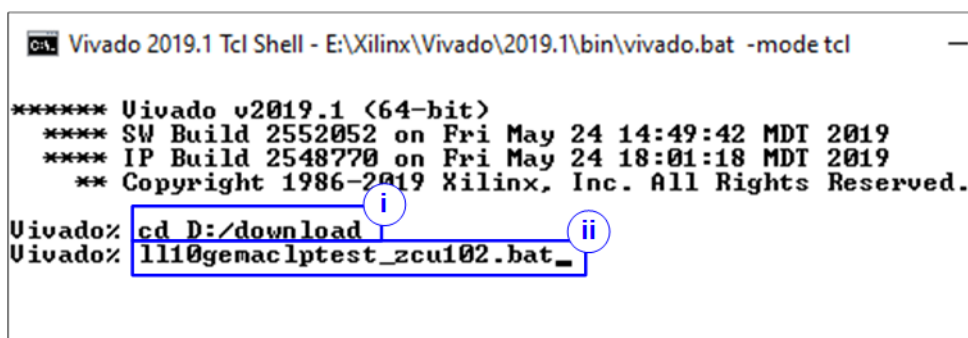

Figure 2-4 Example command script for download to ZCU102 by Vivado tool
- ii) Type "ll10gemacipctest_zcu102.bat" to configure FPGA and download firmware, as shown in Figure 2-4.